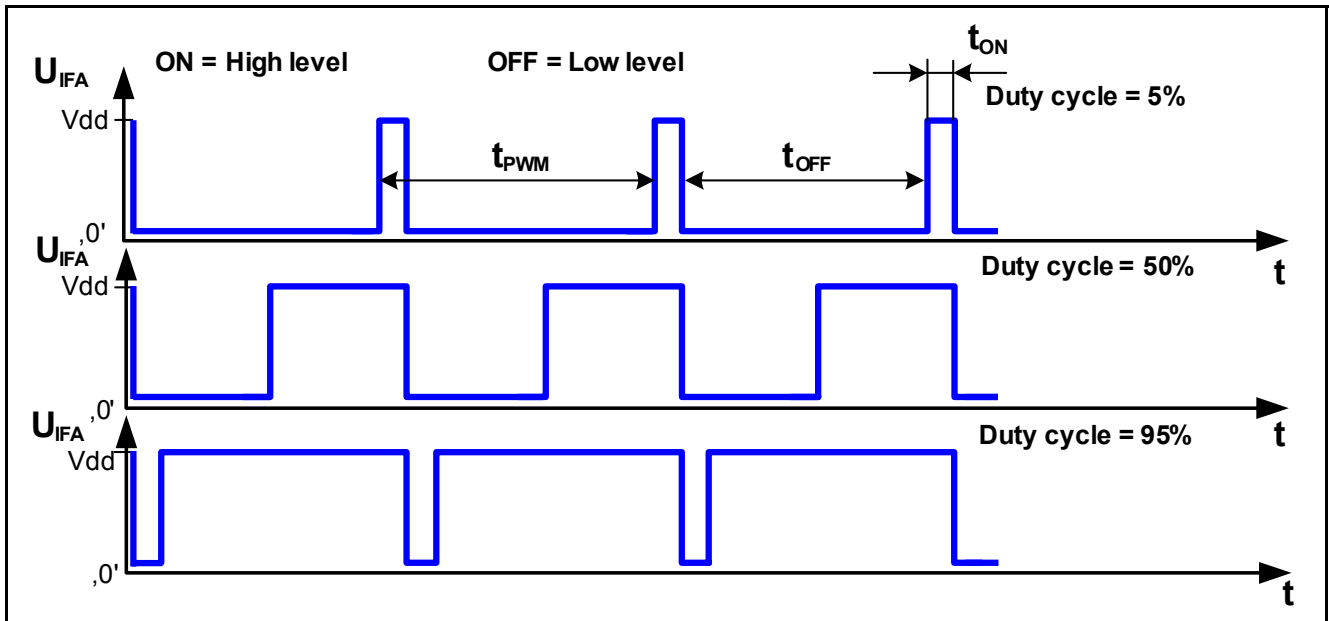

Figure 16 Typical Example for a PWM Signal
**Figure 16** shows the principle behavior of a PWM with different duty cycles and the definition of timing values. The duty cycle of a PWM is defined by following general formulas: